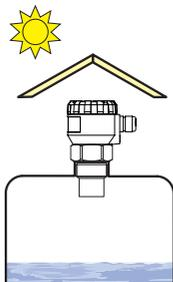

Fig. 13: Solar radiation shielding cover
- Rotating **mixer blades** can cause that the surface is stirred, which results in false reflections of the ultrasonic signal from the surface level and unreliable operation of the level meter (Fig. 13). **For a rippled or swirling level, you can use the directional horn to eliminate scattering of the ultrasonic signal.**
- The level meter must not be installed in places with direct **solar radiation** and must be protected against weather effects. If the installation in places with direct solar radiation is inevitable, it is necessary to mount a **shielding cover** above the level meter (Fig. 13).